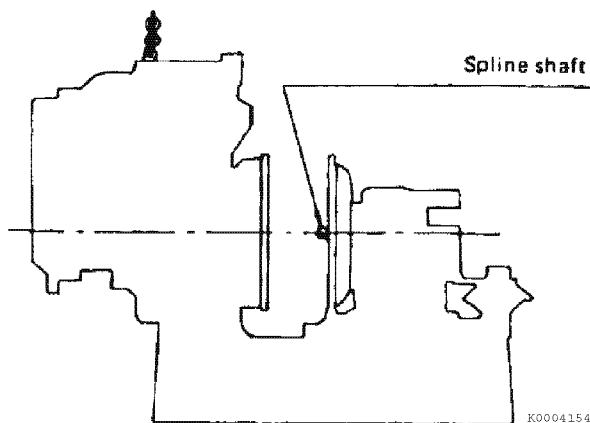

Figure 19
11. Lightly grease the splines and install the engine, being careful to engage the splined shaft as the assemblies are moved together (**Figure 19**).